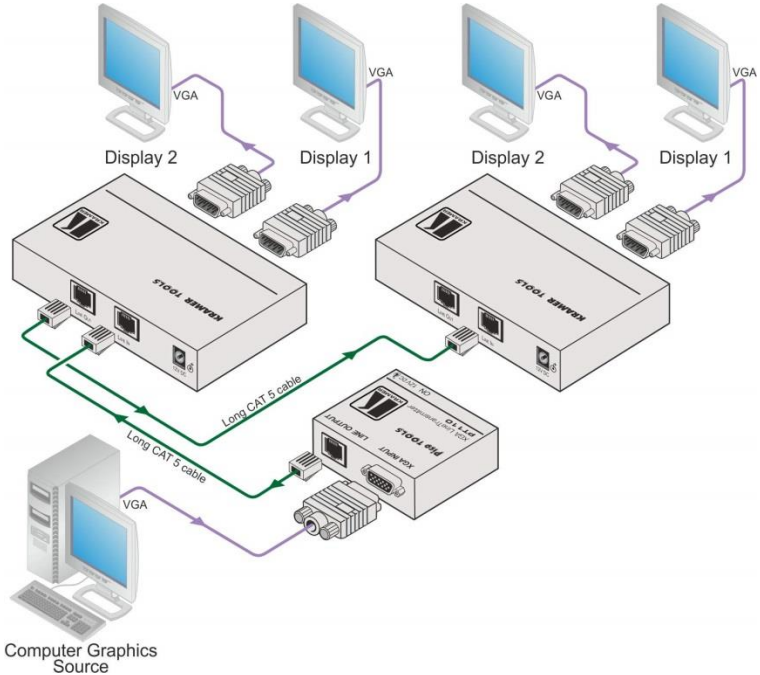

Figure 3: Connecting the TP-202 UXGA Line Transceiver/DA
To connect the **TP-202**, as the example in Figure 3 illustrates, do the following:
9. Connect the 12V DC power adapter to the power socket and connect the adapter to the mains electricity (not shown in Figure 3).